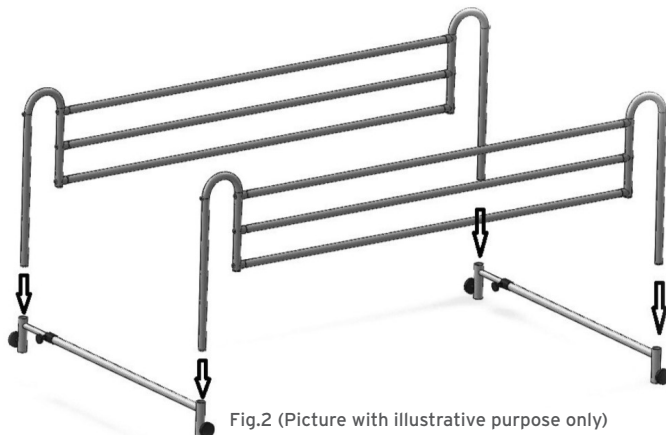

Fig.2 (Picture with illustrative purpose only)
1. Place the telescopic tubes on the floor and insert the bedside rails into the vertical tubes. (Fig.2)